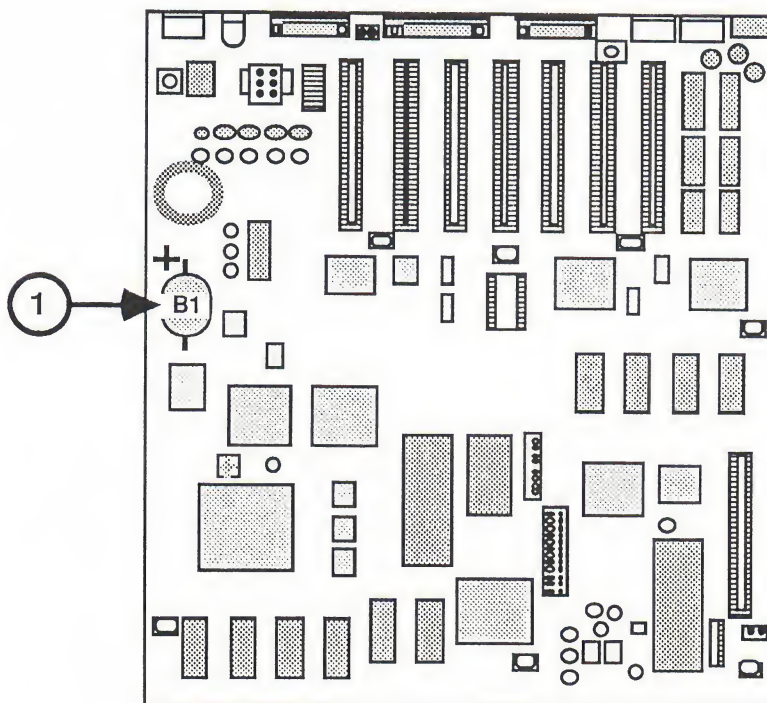

FIGURE 1
2. Locate the battery on the front of the logic board (see Figure 1, #1). Turn the logic board over. The battery is held in place by two soldered leads. Apply fresh solder to the two connections.
1. Insert the new battery so that it is flush with the board. Be sure the positive side of the battery is in the correct location (see Figure 1, #1).